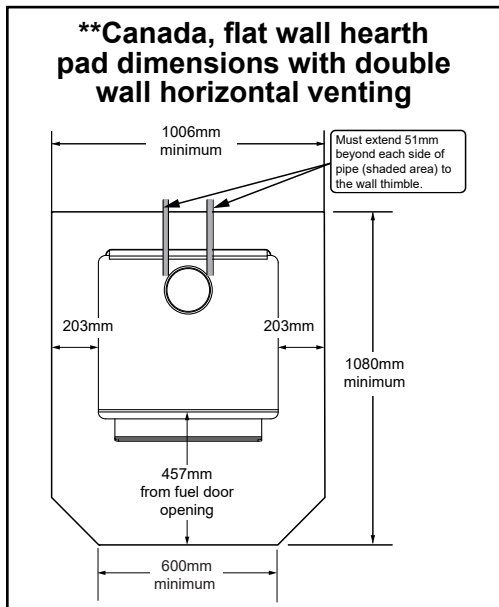

Figure 9.2 - \*\*These dimensions will vary depending installation.
**In Canada,** similar floor protection must be provided 18 inches (457mm) in front and 8 inches (203mm) from the sides and rear of the appliance unless the hearth pad is placed against the wall (**Figure 9.2**). Then the clearance may be reduced using double wall pipe and the Clearance to Combustibles table listed on page 10.
**\*Exception:** Non-combustible floor protector must extend beneath the flue pipe when installed with horizontal venting and extend 2 inches (51mm) beyond each side (**Figure 9.2**).